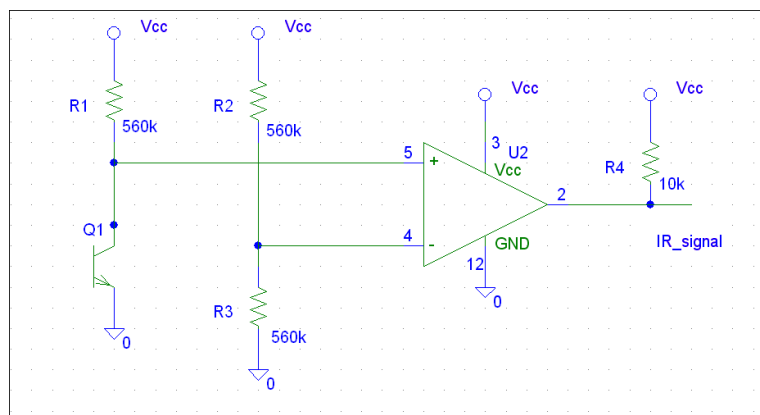
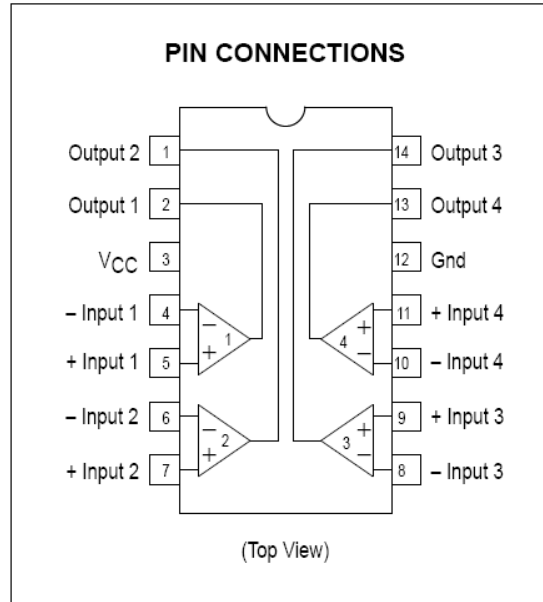

Figure 3: IR Receiver Circuit
Figure 4: LM339 Comparator
- (a) Build the circuit shown in Figure 3. Use the voltage source on your workbench to provide $V_{cc} = 3.3V$ to your circuit. The comparator pin-out diagram is provided for you in Figure 4, and you may use any of the four available comparators. Note the $10k\ \Omega$ pull up resistor connected to the output terminal. This resistor is necessary because the output of the comparator is an open-collector output.
- (e) Since our peripheral has an input pin (i.e. *IR_signal* from Figure 3), we must add it to the port list of our '`ir_demod.v1_SOO_AXI.v`' file. Do this now using *IR_signal* as the port name. Use the auto generated comments as a guide for where to insert your changes.